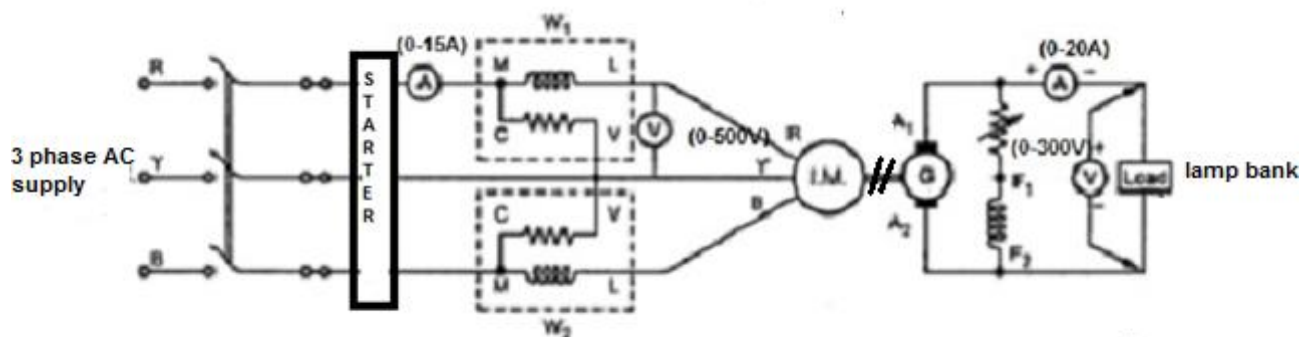

Fig.2.1
1. Make the connections as per the circuit diagram shown in Fig.2.1